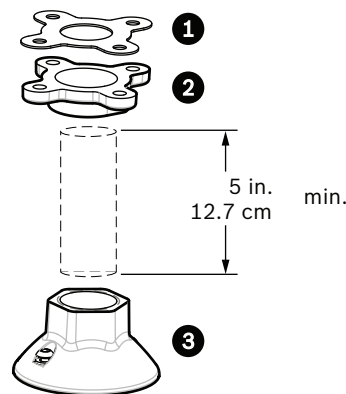

Figure 3.9 Pipe Mount
- Thread the Pipe Cap onto the down pipe and tighten securely to prevent leaks. See *Figure 3.9, Page 45.*